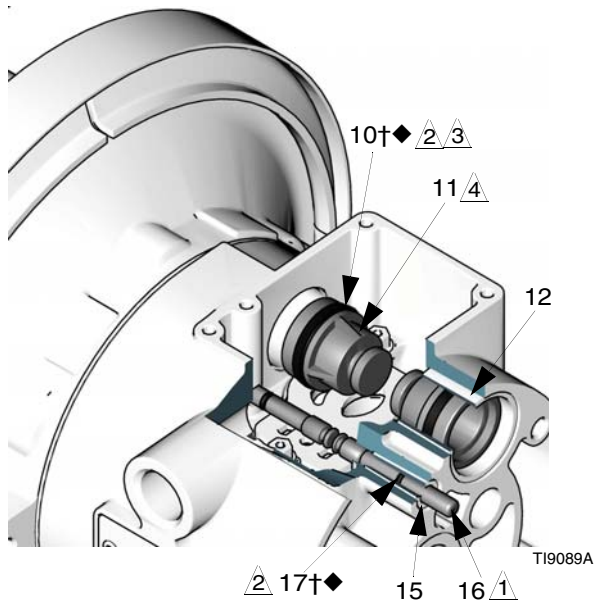

FIG. 7
4. Pull the two actuator pistons (11) out of the bearings (12). Remove the u-cup packings (10) from the pistons. Pull the pilot pins (16) out of the bearings (15). Remove the o-rings (17) from the pilot pins. See FIG. 7.
6. Inspect the bearings (12, 15) in place. See FIG. 7. The bearings are tapered and, if damaged, must be removed from the outside. This requires disassembly of the fluid section. See page 24.
4. Install an o-ring (17†◆) on each pilot pin (16). Grease the pins and o-rings. Insert the pins into the bearings (15), **narrow** end first. See FIG. 7.
5. Install a u-cup packing (10†◆) on each actuator piston (11), so the lips of the packings face the **narrow** end of the pistons. See FIG. 7.
6. Lubricate the u-cup packings (10†◆) and actuator pistons (11). Insert the actuator pistons in the bearings (12), **wide** end first. Leave the narrow end of the pistons exposed. See FIG. 7.